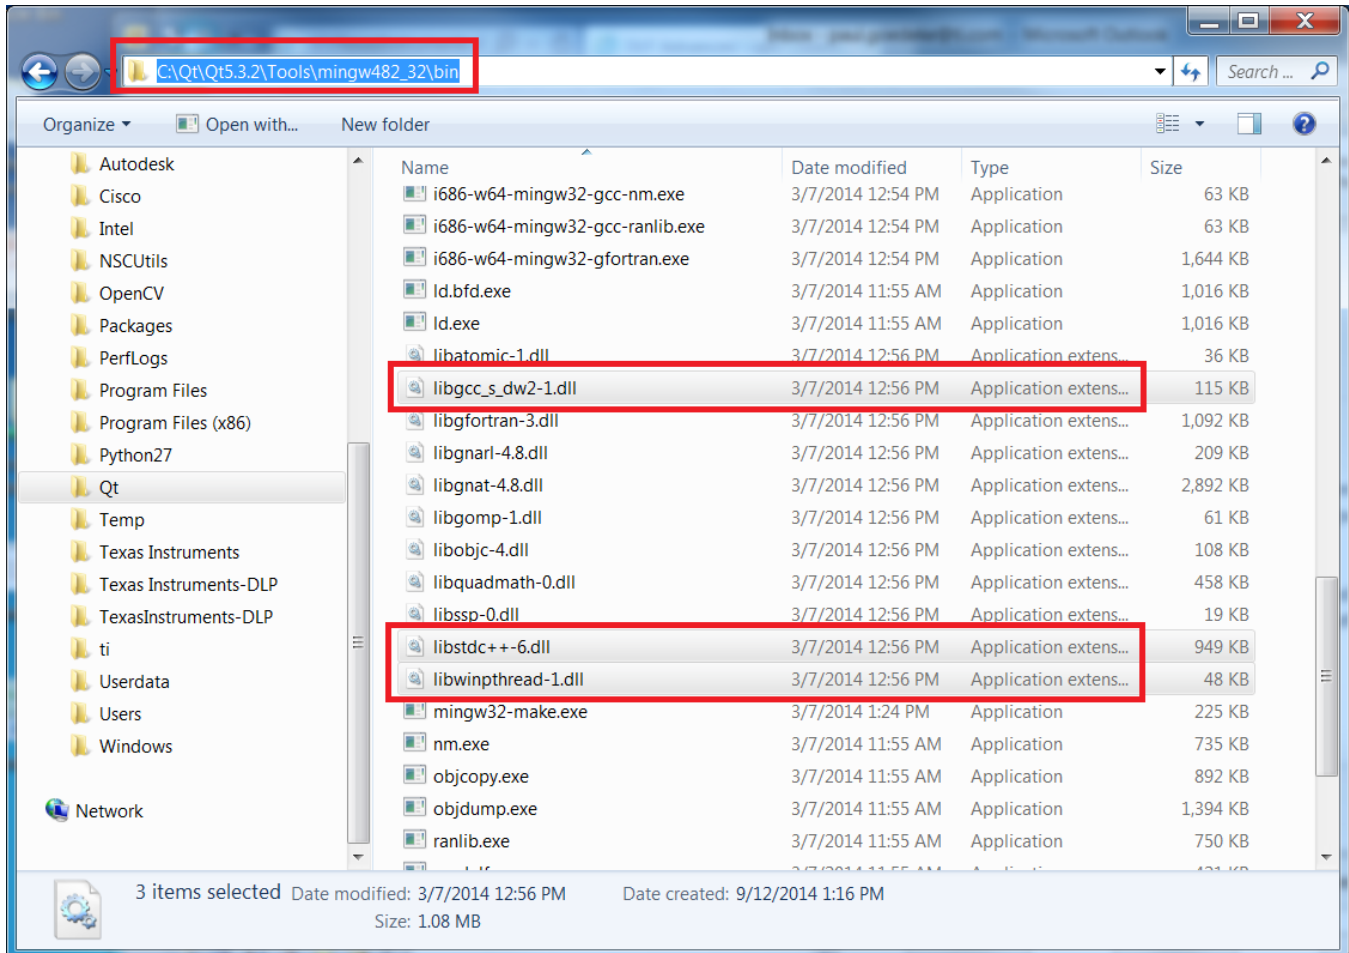
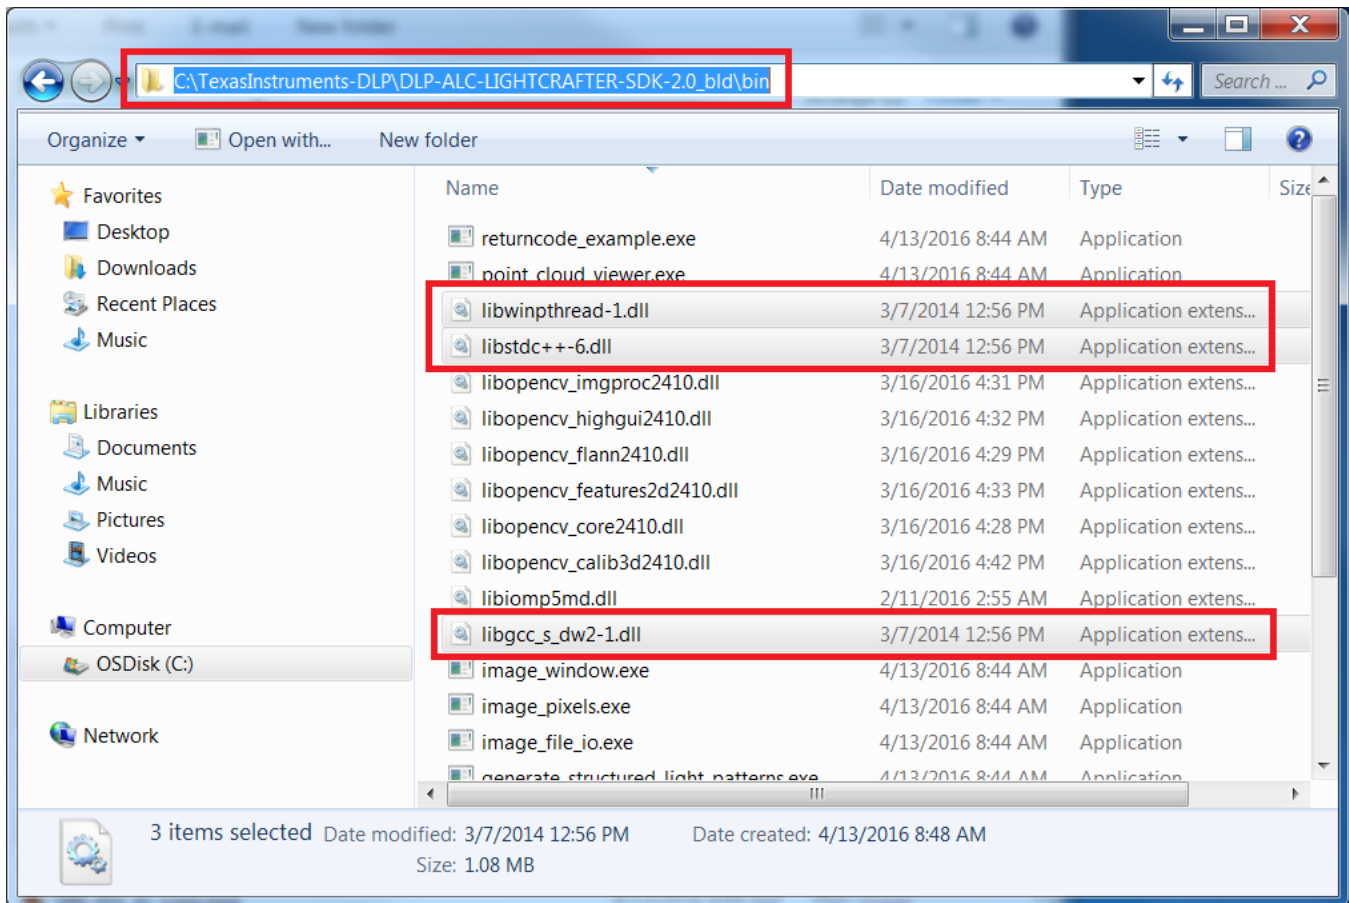

Figure 53. Example Code DLLs to Copy
Figure 54. Example Code DLLs Copied Into Correct Folder
- The installed and built DLP ALC SDK also includes example code for reference. This example code can be found in \bin folder of the built code. An example file path might be: C:\TexasInstruments-DLP\DLP-ALC-LIGHTCRAFTER-SDK-2.0_bld\bin. Once built, the examples are in the form of .exe files and include simple operations such as point cloud viewing, taking a picture, and opening the camera. To run these examples, three DLLs need to be copied into the \bin folder. These DLLs are *libgcc_s_dw2-1.dll*, *libstdc++-6.dll*, and *libwinpthread-1.dll*, and they can be found in C:\Qt\Qt5.3.2\Tools\mingw482_32\bin. Copy them from the folder shown in Figure 53 into the build folder as shown in Figure 54.
7. Before the TI Design can be run, the DLLs from Figure 53 must be copied into the \bin folder inside the built code folder for the TI Design. An example path is C:\TexasInstruments-DLP\DLP-ALC-LIGHTCRAFTER-SDK-2.0\TIDA-00254_LCr4500_MachineVision_bld\bin.